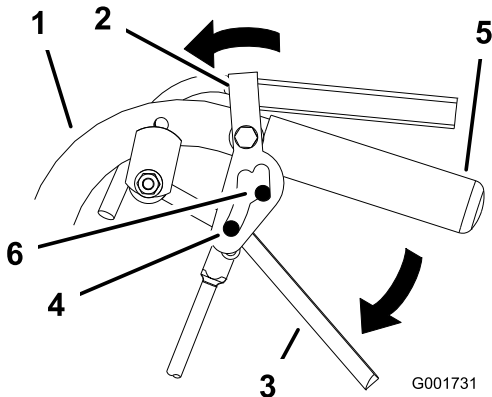

Figure 11
- Place thumbs on the upper part of locks and move them forward until the pins are in the forward slot (Figure 11).